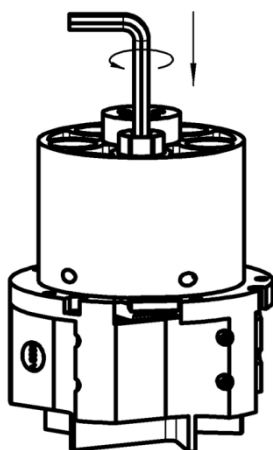

Fig. 76: Inserting the female contact
4. Use an Allen key to insert and tighten the new female contact (Fig.76).